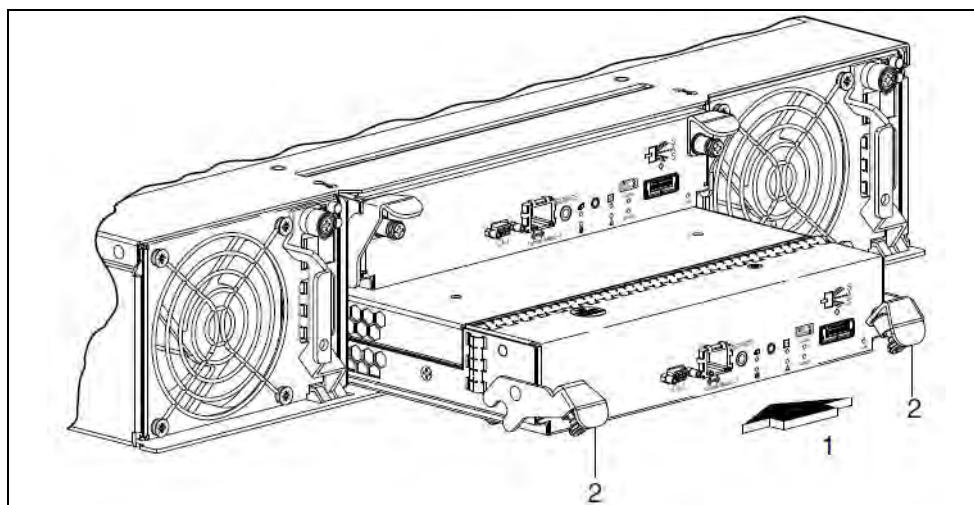

Figure C.49 - Inserting a Controller Module
1. Loosen the thumbscrews and press the latches downward (**Figure C.49**).
2. Slide the controller module into the enclosure as far as it will go. See (1) in **Figure C.49**.
3. Press the latches upward to engage the controller module. See (2) in **Figure C.49**. Turn the thumbscrews clockwise until finger tight.